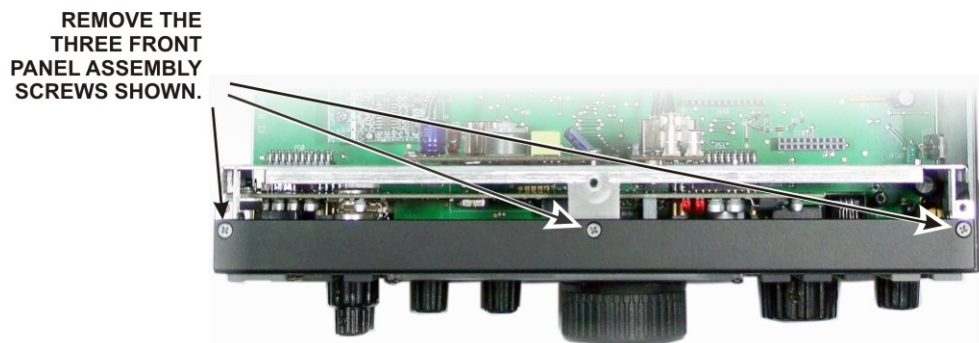

Figure 4. Removing the Top Front Panel Screws.
Remove the three screws securing the top of the front panel assembly as shown in Figure 4.
⚠ CAUTION: Before continuing on with the next step, be sure you have removed the three top Front Panel Assembly screws shown in Figure 4. You may bend and damage the front panel or shield assemblies if the screws are not removed!
- Fasten the top of the front panel assembly with three 4-40 3/16" (4.8 mm) black flat head screws (see Figure 4).